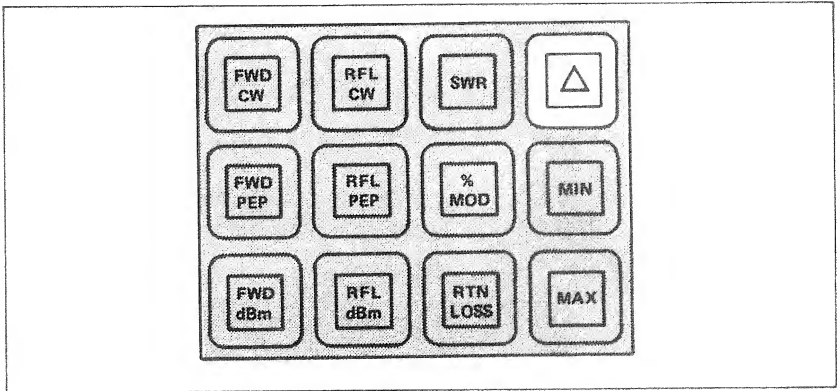

**Figure 3-8. Maximum or Minimum Readings.**
**h. Monitoring Maximum and Minimum Readings.** (Figure 3-8.) While operating in any of the modes described, the 4391 will continuously keep track of the highest and lowest reading obtained. This action begins after ten reading cycles to allow time for the peak detectors to settle from the previous mode. To recall the maximum or minimum reading, hold the **MAX** or **MIN** key depressed. When these keys are released, the meter goes back to displaying the current value of the parameter being measured. Recalling maximum or minimum does not stop the meter from continuing to monitor the current value and updating the minimum and maximum registers. To clear the minimum and maximum register, the mode key must be pressed again or a new